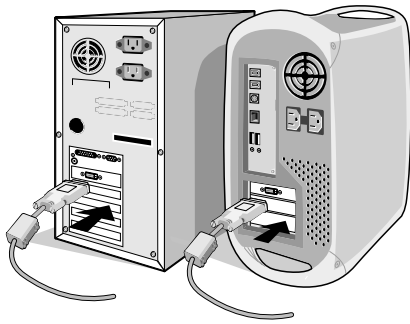

Figure A.1
2. **For a PC or MAC with DVI digital output:** Connect the DVI signal cable to the connector of the display card in your system (Figure A.1). Tighten all screws.